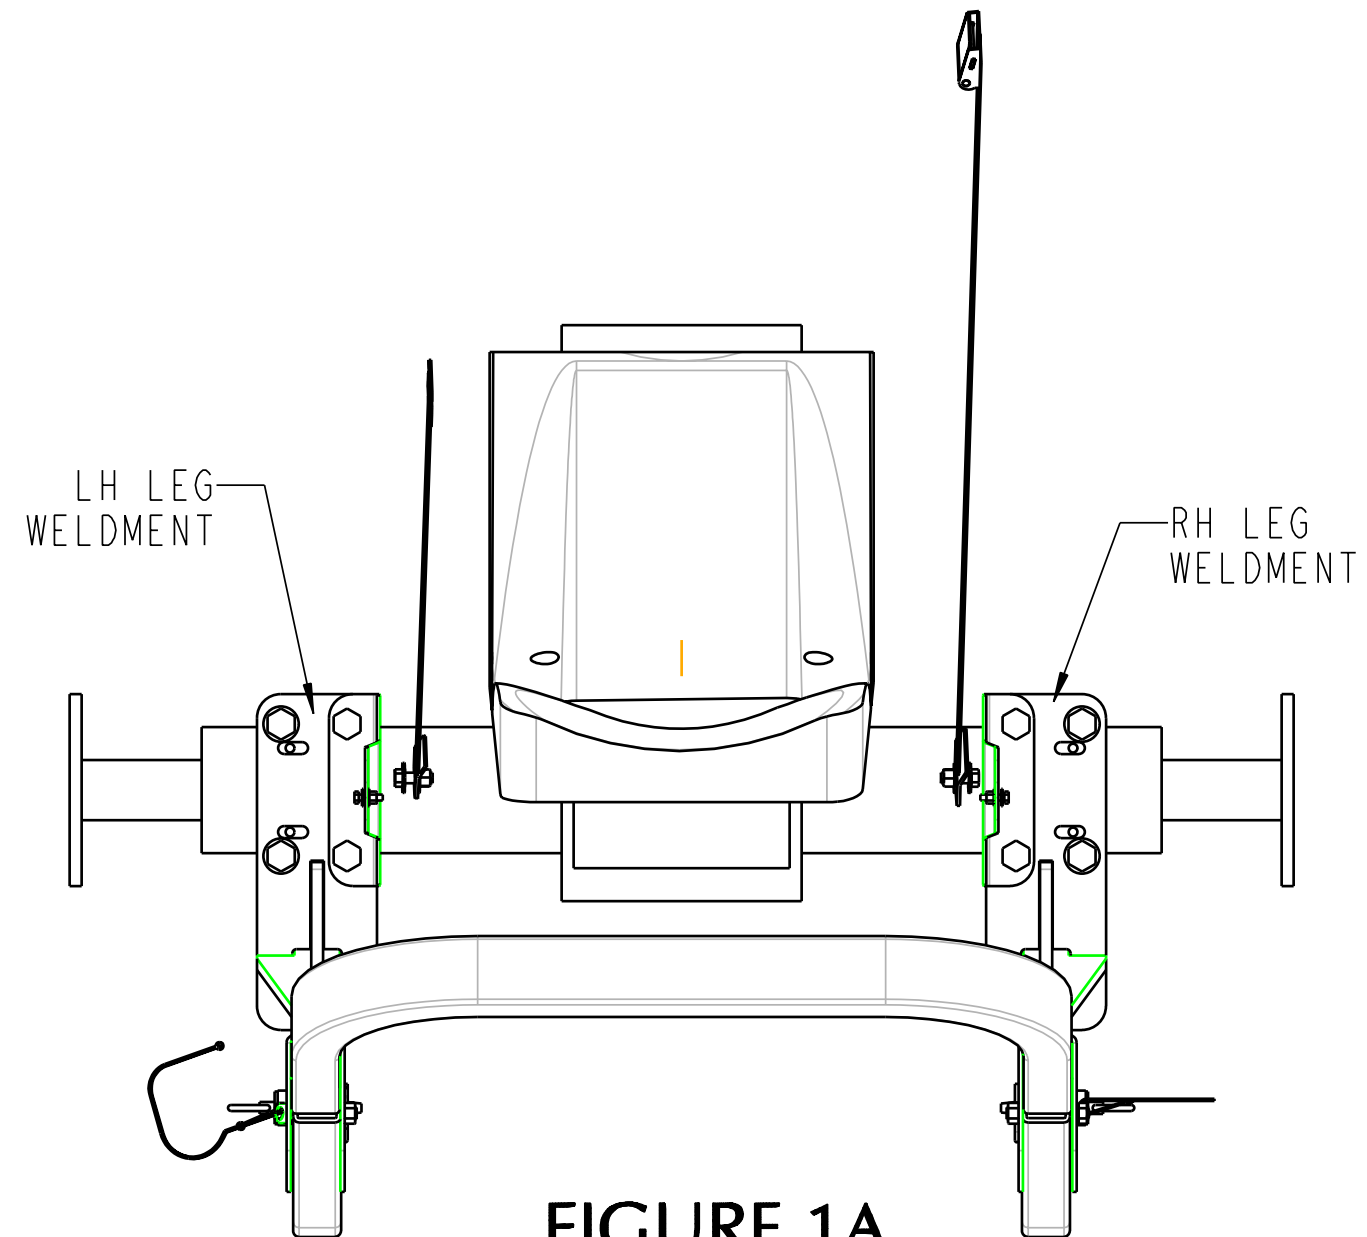

FIGURE 1A
Lower ROPS Leg Weldments Installation (Refer to Figure 1A & 1B for Steps 2-7)
- 3) Leg weldments are identical. Select one leg and mount onto axle. See Figure 1A.